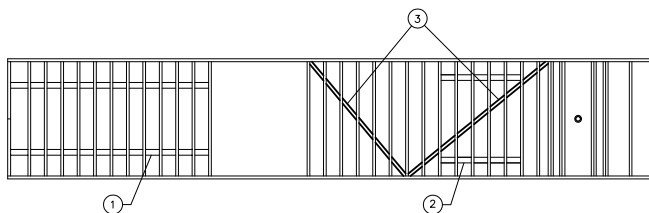

Figure 5
1. Install bracing as shown in Figures 5 and 6.